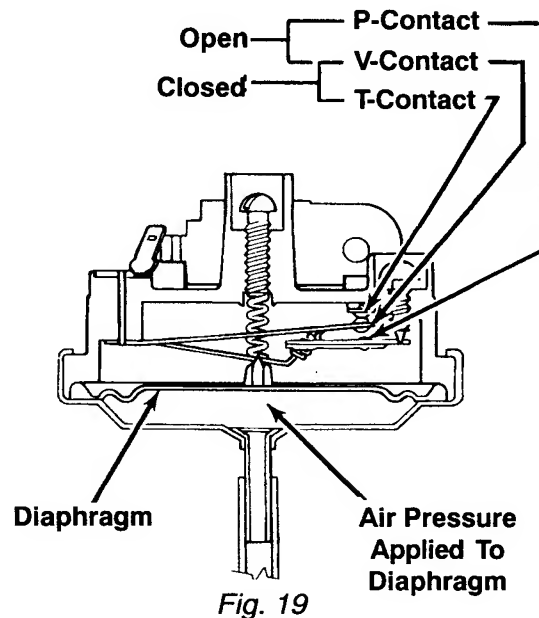
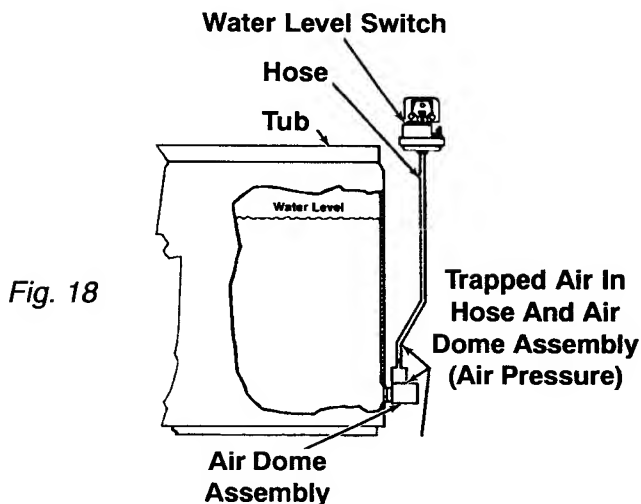

Fig. 19
Fig. 18
3. As the water level increases in the tub, it also causes an increase in air pressure in the air dome assembly. (Fig. 18) A hose between the air dome and the water-level switch transfers this pressure against the diaphragm in the water-level switch, causing electrical contacts (V to T) to close. This happens when the tub is FULL. (Fig. 19)